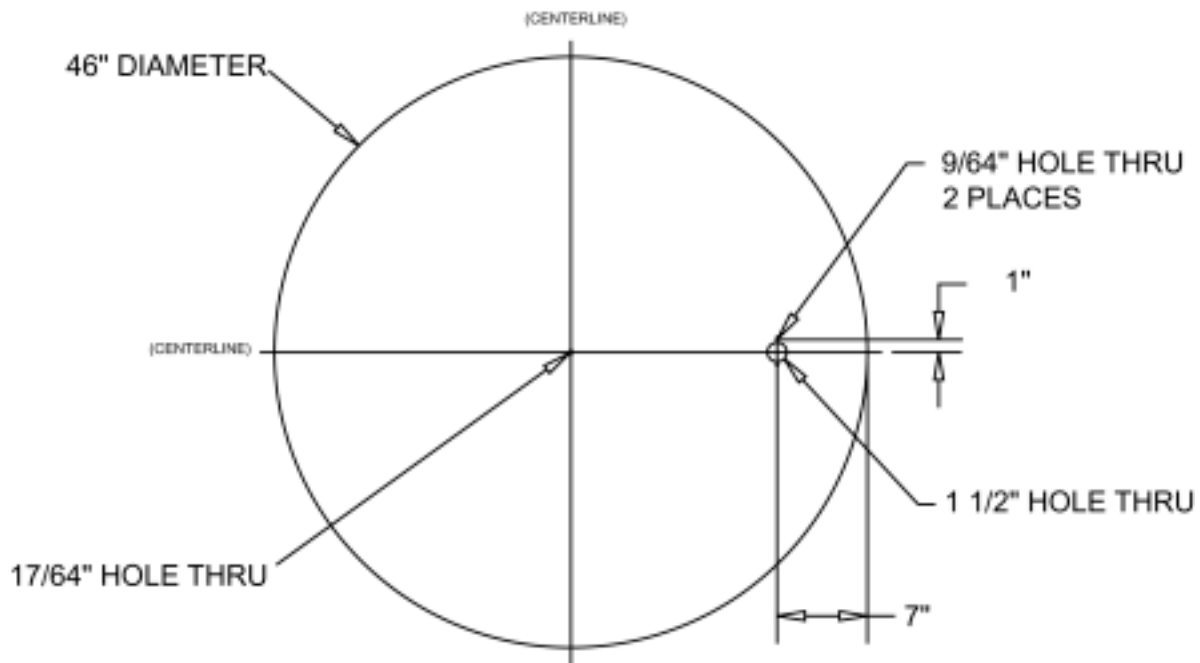

Figure 1. wood platform layout
2. Drill $1\frac{1}{2}$ " hole for air source (see figure 1)
3. Drill two $\frac{9}{64}$ " holes for air source adapter (see figure 1)
4. Drill $\frac{17}{64}$ " center hole (see figure 1)